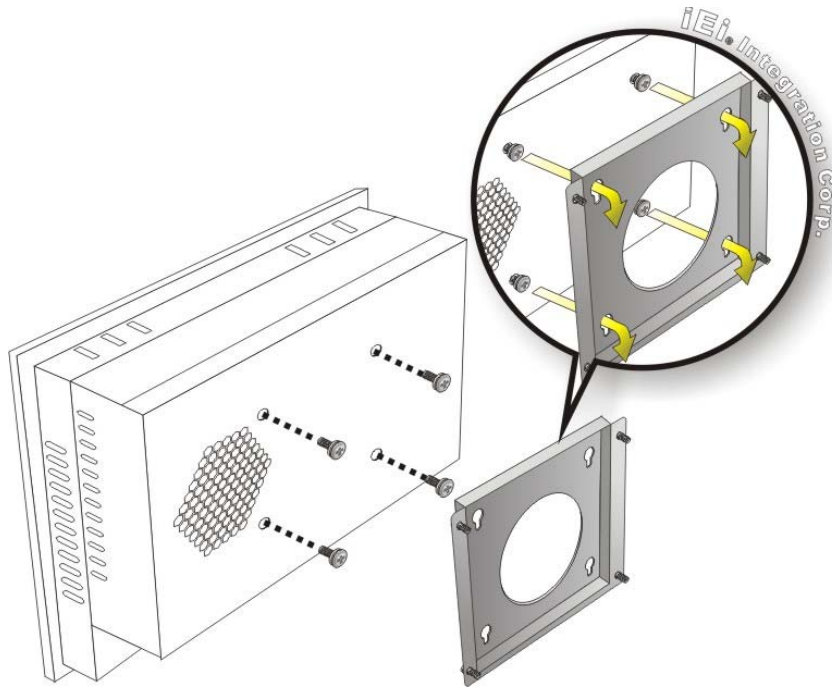

Figure 3-25: Mount the Chassis
- Step 6:** Insert the four monitor mounting screws provided in the wall mounting kit into the four screw holes on the rear panel of the monitor and tighten until the screw shank is secured against the rear panel (**Figure 3-25**).
- Step 8:** Carefully insert the screws through the holes and gently pull the monitor downwards until the monitor rests securely in the slotted holes (**Figure 3-25**). Ensure that all four of the mounting screws fit snugly into their respective slotted holes.